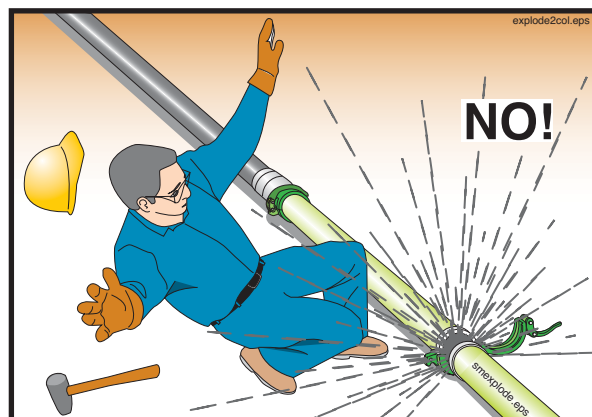

Figure 88
- 17.9 **⚠ WARNING** Never open a pressurized pipeline (Figure 88). The pump operator must release the pressure before you open the line. If the line is pressurized with compressed air, let the operator release the pressure and verify that the air has escaped before you proceed.